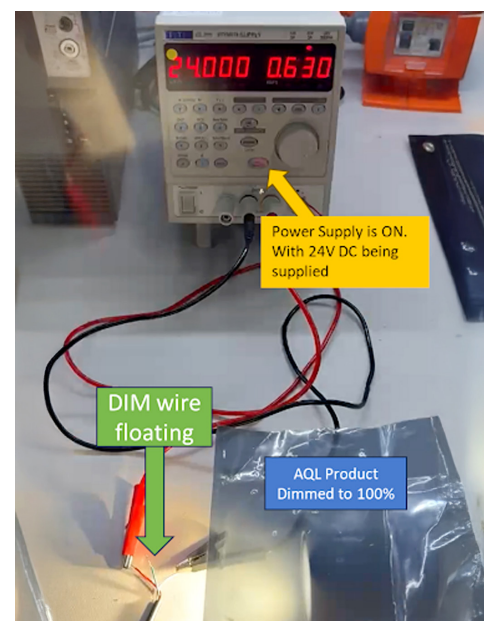

FIG. 4
- Begin your dimming test by connecting only the **red** and **white** wires to the power supply, delivering **24V DC** to the AQL product. Leave the **dim wire disconnected** (floating). When properly connected, the AQL product will illuminate at **100% brightness** (Fig. 4). This confirms proper power connection.